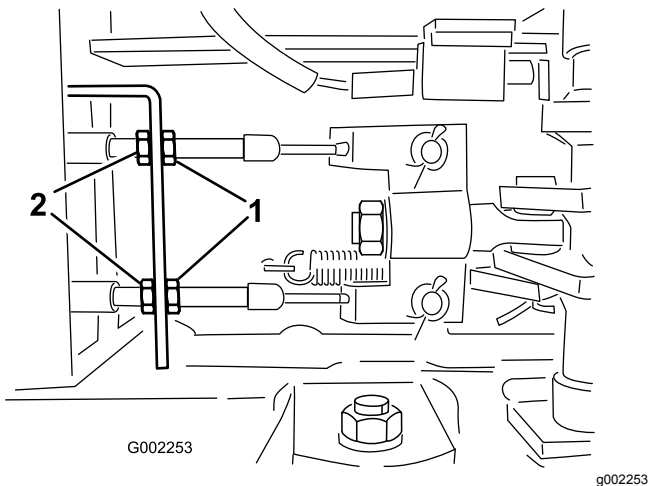

Figure 83
5. Loosen the front nuts on the brake cables under the front end of the machine (Figure 83).
6. Tighten the rear nuts equally until the brake pedal moves 1 to 2 cm (1/2 to 1 inch) before you feel resistance (Figure 83).